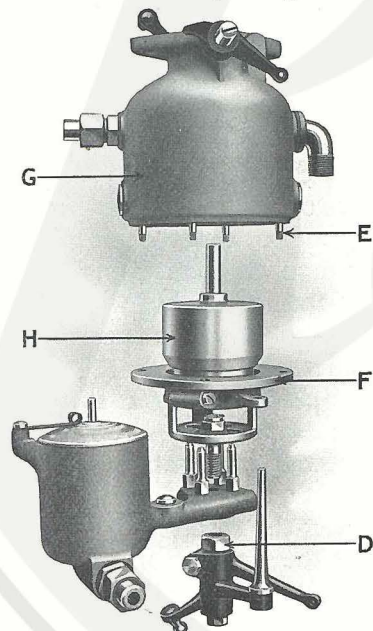

Fig. 31
5. Unscrew the jet platform stud (D-Fig. 31), which is then removed together with the air control lever, throttle spring arm, jet platform and float chamber.
Remove the four nuts from studs (E-Fig. 31) which secure the choke pillar flange (F) to the carburettor body (G), lower the choke pillar and float chamber until clear of the carburettor body and remove.
The automatic piston valve (H-Fig. 31) is not attached to the choke trunk and can be readily withdrawn.